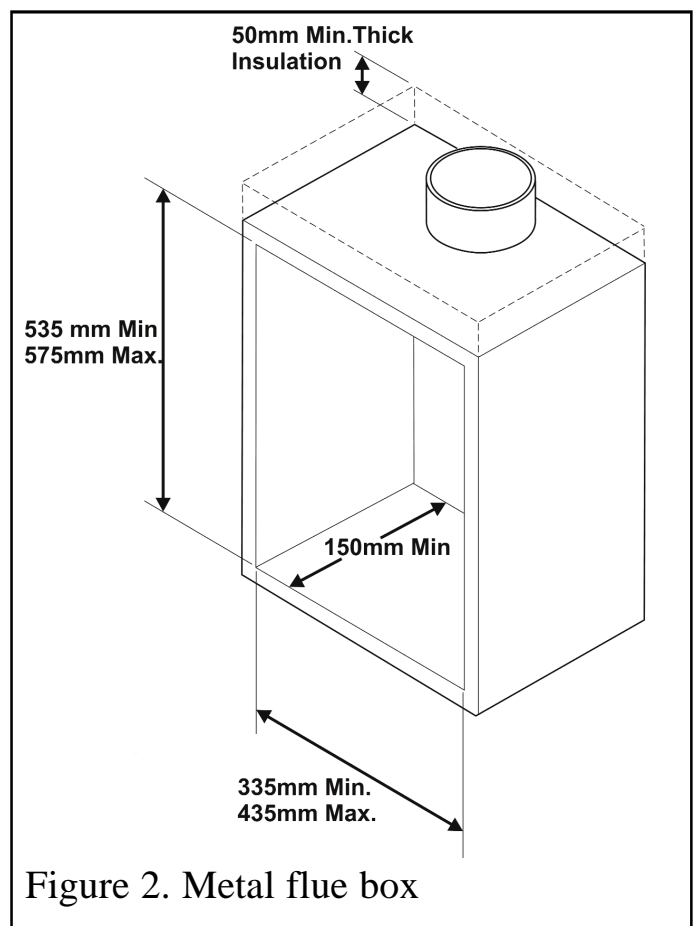

Figure 2. Metal flue box
3.2.2 To a fireplace incorporating a metal flue box conforming to BS EN 1856 Part 1 or BS 715 with a minimum internal depth of 150mm. Incombustible mineral wool insulation of not less than 50mm thickness must be applied to the top surface of the hotbox (See figure 2) and it must stand on a non-combustible hearth (See figure 1).